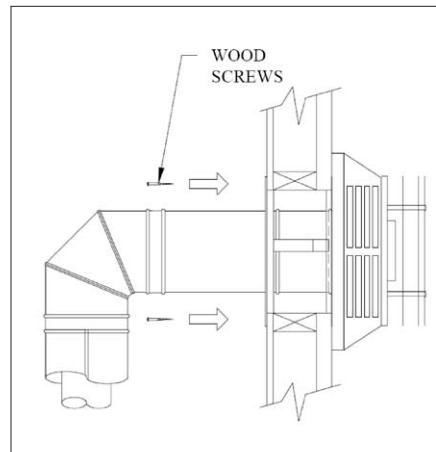

Figure 39: Installation of Wall Firestop.
Step 7. Slide the Wall Firestop up to the wall surface and attach with screws provided (see Figure 39).